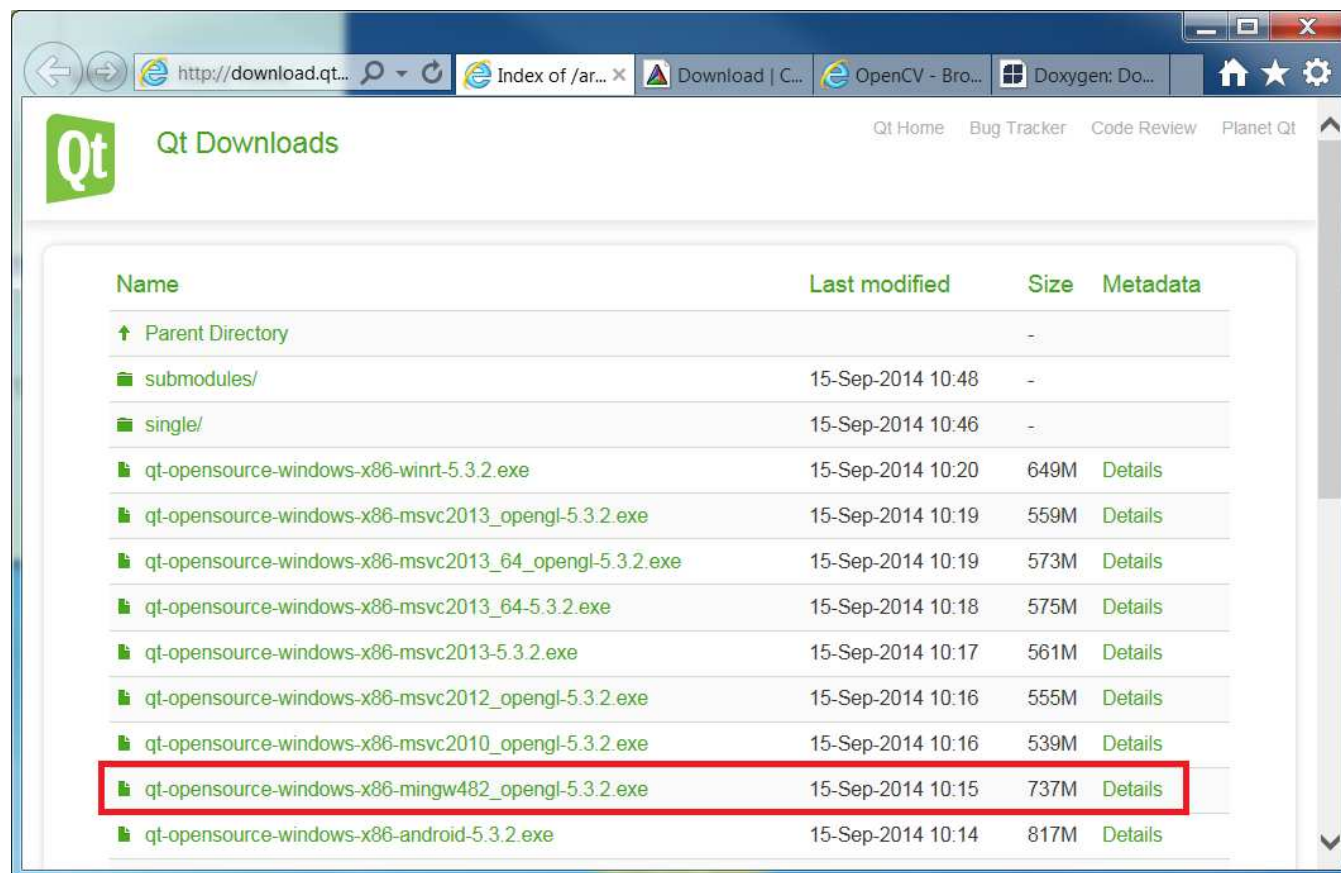

Figure 2. Qt Website
1. Download `qt-opensource-windows-x86-mingw482_opengl-5.3.2.exe` from the link given in Section 1. Figure 2 shows the Qt website and indicates which file to download.